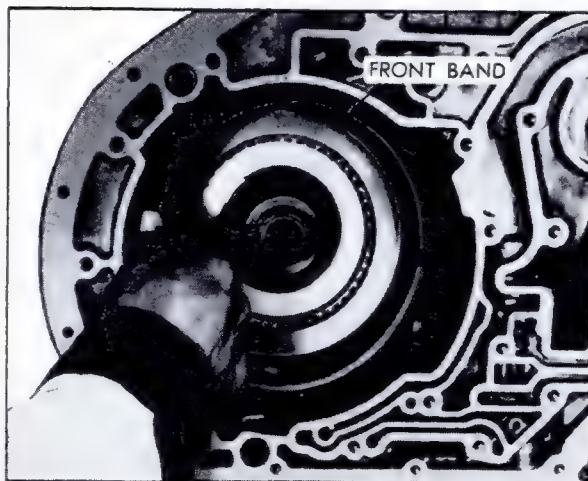

Fig. 7-202 Installing Front Band
b. Install front band with band anchor hole over band anchor pin, and apply lug facing servo hole, Fig. 7-202.